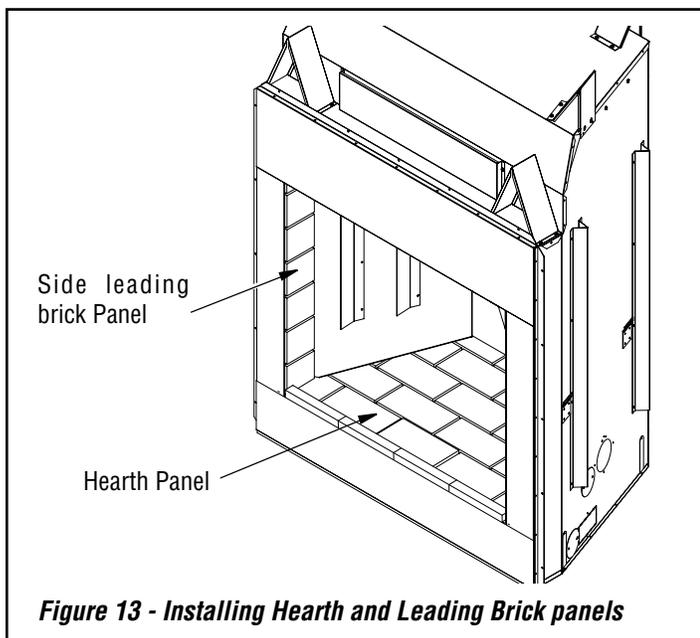

Figure 13 - Installing Hearth and Leading Brick panels
1. Install bottom brick panel. Using at least two people, hold bottom brick panel by its side edges. Place the back edge of bottom panel into the firebox first and carefully lower the front edge of panel. Make sure bottom panel is centered in the firebox and flush with the front of the fireplace. Be careful not to pinch your fingers between the panel and firebox (**Figure 13**).
2. Install the left and right side leading bricks (**Figure 13**).